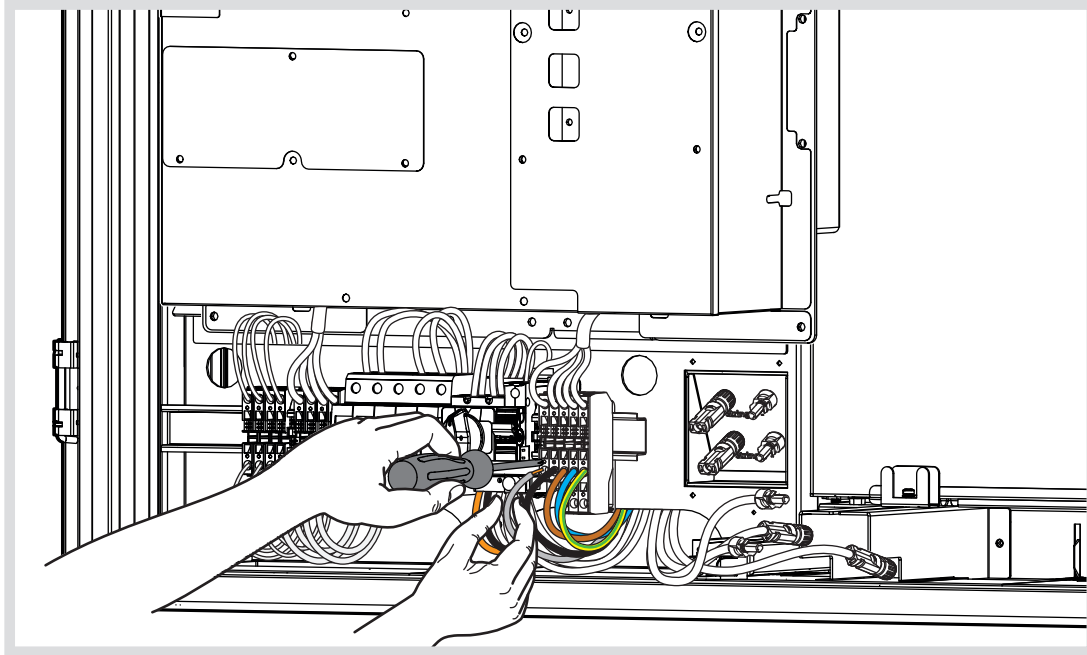

Figure 28: Mains cable connection
- Connect the conductors to the modular plug-in terminals in the energy storage system using a slot screwdriver (Figure 28).